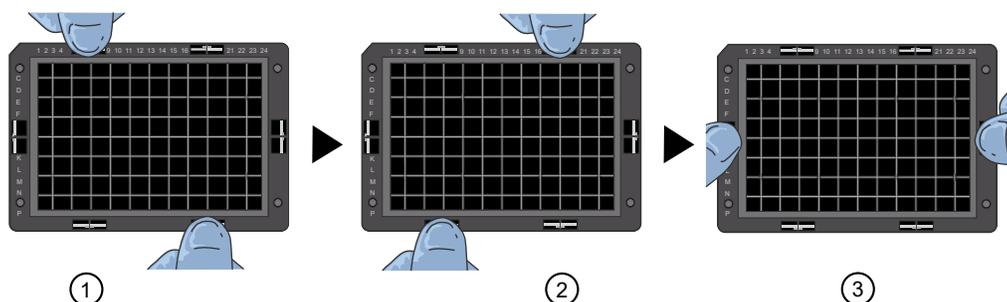

Figure 18 Clamping verification steps.
- ① Chamfer/notched corner
6. Ensure the clamping of the plate stack to check that the array plate is securely fastened to the hybridization tray. Using your thumbs, press the array plate downward following the positions that are specified in Figure 18. No clicking sound indicates proper clamping.